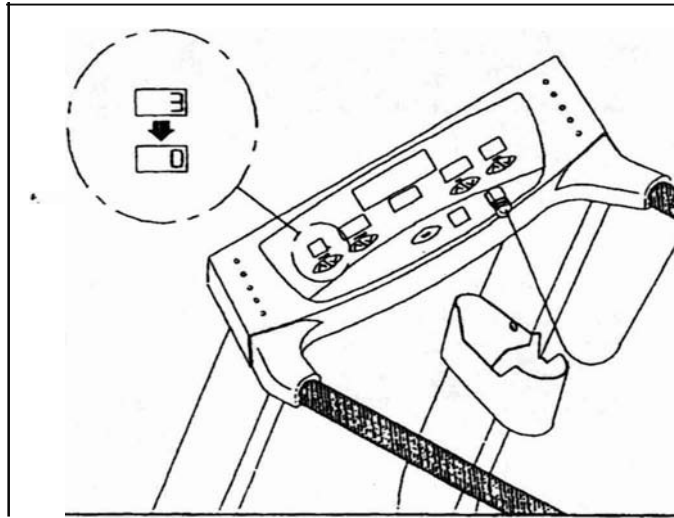

Fig.13
5. Plug the power cord to the outlet. Turn on the treadmill and press "INCLINE ▼" or "INCLINE ▼" to lift up 3%. Then press "INCLINE ▼" to come down 0%. (See Fig.13)